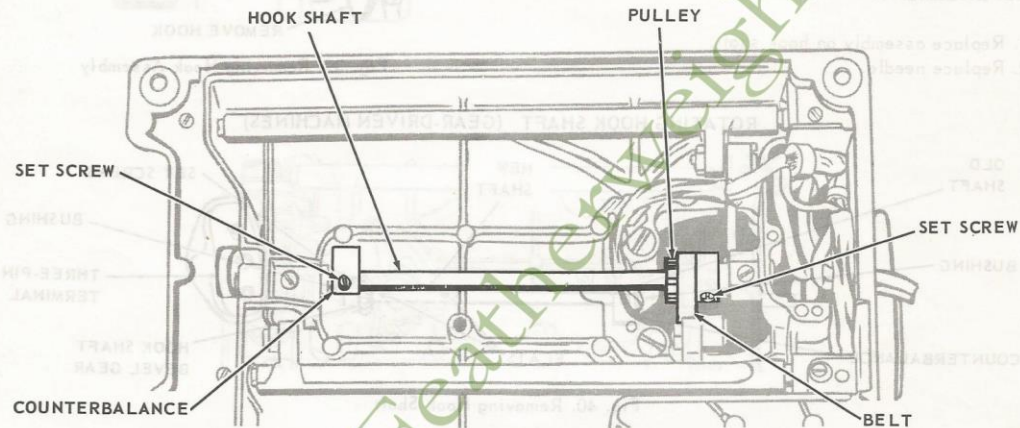

Fig. 41. Removing Hook Shaft
2. Loosen set screws in hook shaft pulley, Fig. 41, counterbalance and hook assembly. Remove old shaft out through left end of machine. Do not use new shaft as a tool.